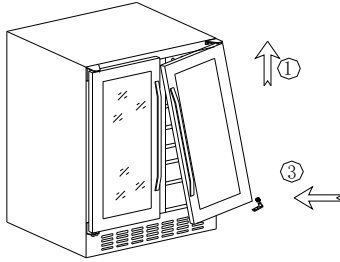
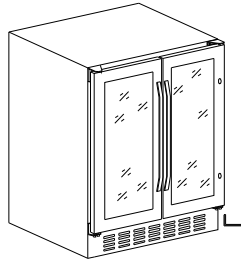

Fig:4
Fig:5
3. Fig:4 Tilt the door and insert to the top like ① shows, then move the door levelly to make it in the same level with the cabinet (③)Fig:5, before tighten the bottom screws, to make sure the door is in the same level with the cabinet.